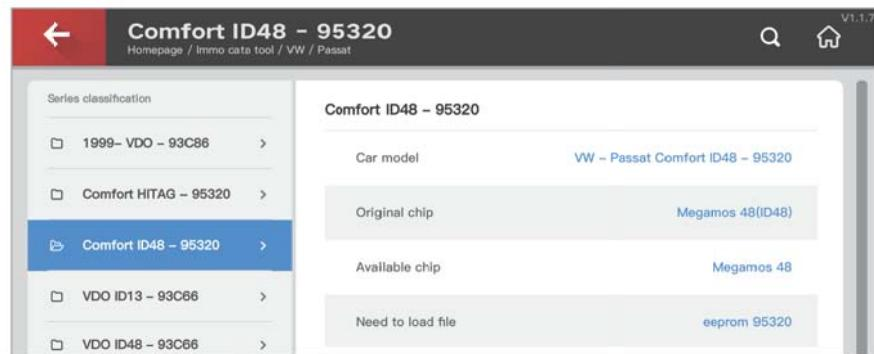

Fig.8.2.1
- ① Choose VW/Magotan, CC ID48- 95320 option as shown in Fig. 8.2.1.